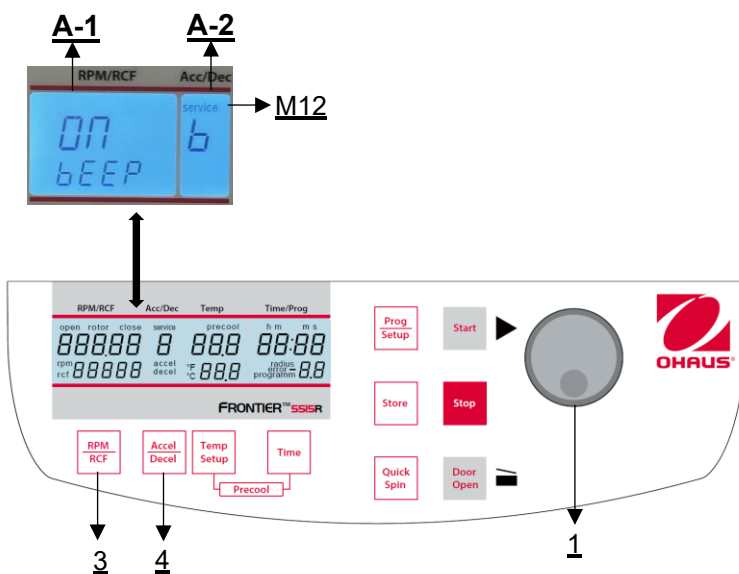

Figure 34
Proceed as described under point 4.1.1 to enter this program mode and then press the key "Accel/Decel" (4). In the display "Acc/Dec" (A-2) the word "Service" (M12) flashes. Now select the letter "b" with the adjusting knob (1). As a result, in the display "RPM | RCF" (A-1), the word "ON/BEEP" appears. After pressing the key "RPM | RCF" (3), you can turn the keyboard sound (On) or (Off) with the adjusting knob (1) (see figure 34).